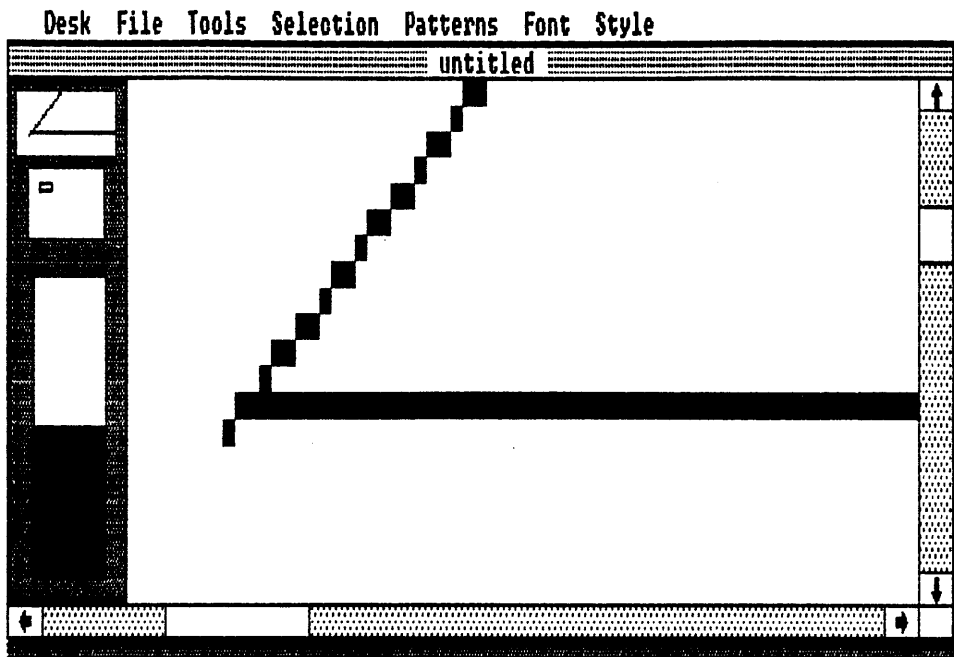

Fig. 3-13. Using the **Microscope** tool produces a special enlargement screen for working with individual pixels.
- ☐ The **Microscope** window has four parts (Fig. 3-13):